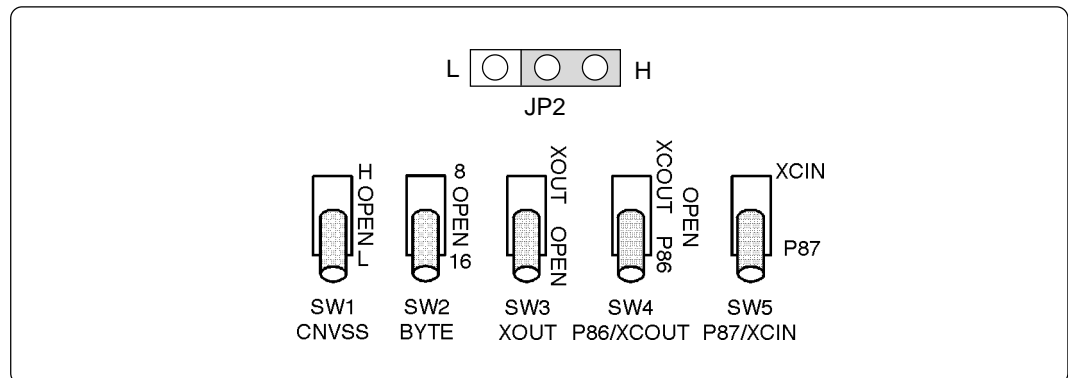

Figure 4.3 Switch settings when running the self-check (factory-settings)
- (1) Set the switches in the emulation pod same as the factory setting (see Figure 4.3).
- (2) When the target system is connected, disconnect the target system.
- (3) Within 2 seconds of activating power to the emulator, press the RESET switch on the emulator front panel to switch the emulator to the maintenance mode.
- (4) Check the "SAFE" LED starts blinking and then press the RESET switch again.
- (5) The self-check will start. If the normal result is displayed in about 2 minutes, the self-check has terminated normally.
- Check if the switches in this product are set same as the factory-settings (Figure 4.3).